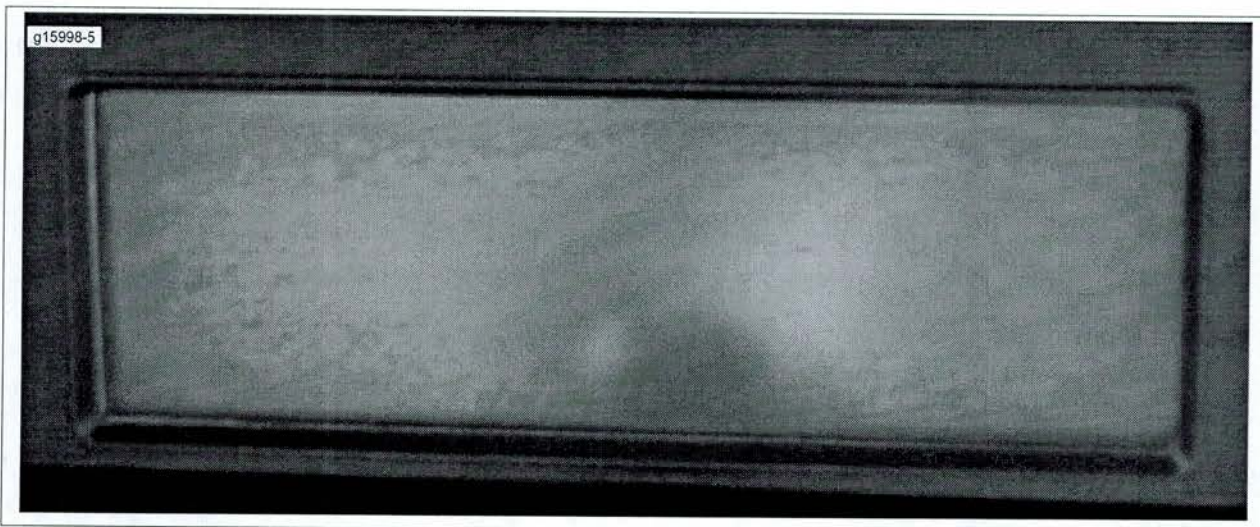

Figure 4. Damaged Display
- See Figure 4. Certain chemicals, including gasoline, when spilled or splashed on the display will cause the appearance of tiny spots or bubbles. This is not considered a warranty situation. Testing has shown that Novus No. 2 Scratch Remover (available through P&A) will remove the outer anti-glare coating and restore the appearance of the display. The display is coated on both sides, so glare should not be an issue.